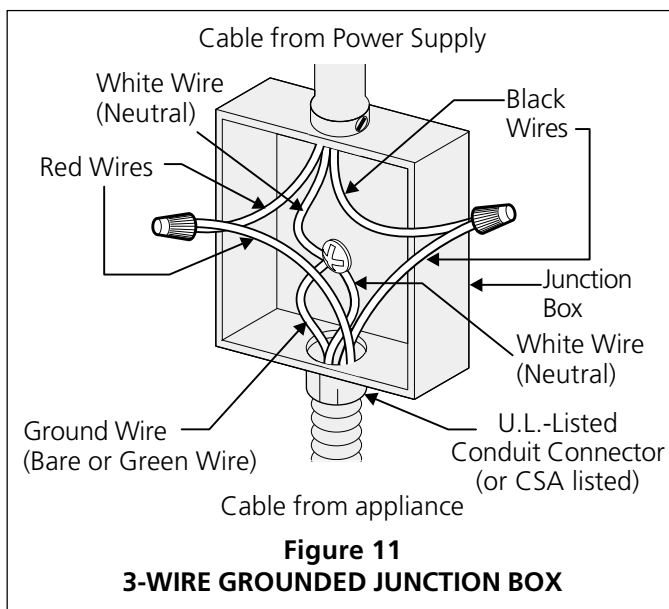

Figure 11
Where local codes permit connecting the appliance cable ground wire to the power supply cable neutral (white) wire (see Figure 11).
2. In the circuit breaker, fuse box or junction box: Connect appliance and power supply cable wires as shown in figure 11.